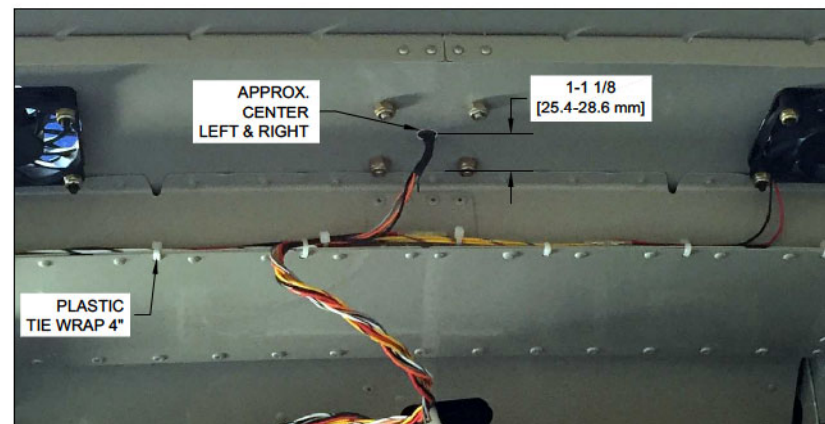

FIGURE 2: GPS ANTENNA LOCATION
Step 5: After completing all wire installation, install a plastic tie wrap at each tie hole location. Trim the excess "tails" off of the plastic tie wraps and rotate so that the stub is less visible as shown in Figure 2.
Step 6 (Dynon): Use the manufacturers instructions, recommended hardware, and mounting dimensions to mount the antenna on the center right of the upper surface of the canopy skin. Take care not to locate any fasteners or protrusions so far aft that they interfere with the F-01467B Instrument Panel Flange Doubler. See Figure 2 and Page 61-06 Figure 2 for approximate location.